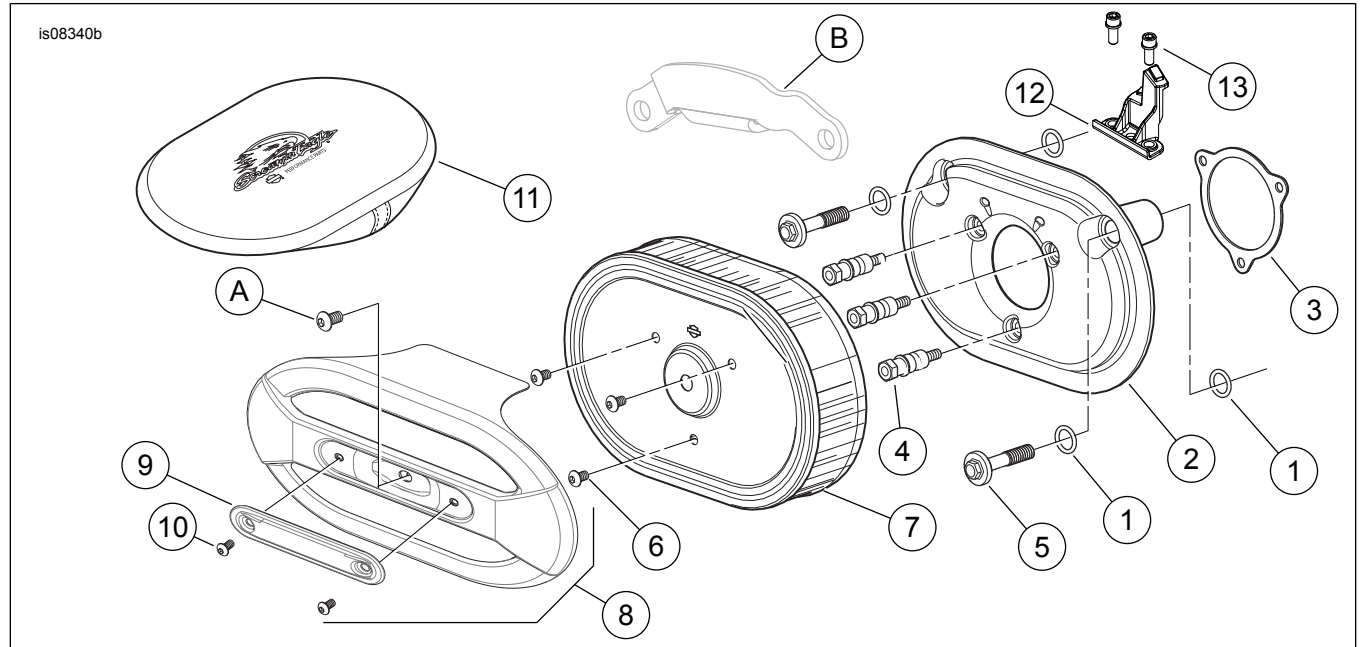

Figure 3. Service Parts: Screamin' Eagle Ventilator Elite Performance Air Cleaner Kit
See Figure 3 and Table 1.
1. See Figure 3. Install ACR clip (12) and screws (13). Tighten screws to 3.4–4.5 N·m (30–40 in-lbs).
2. Install two O-rings (1) from the kit in the grooves around the breather bolt holes on the induction module side of the backplate assembly (2). Install the remaining two O-rings in the grooves in the underside of the heads of the breather bolts (5).
3. Remove the liner from the adhesive backing of the gasket (3). Carefully position the adhesive side of the gasket to the backplate, aligning to the equally spaced screw holes. Press the gasket firmly into place.
4. Insert new breather bolts (5) through the backplate.
7. Thread the air cleaner mounting studs (4) through the backplate (2) until the screw threads are captured in the induction module. Leave fasteners loose.
1. See Figure 3. Secure the air filter element (7) to the air cleaner mounting studs (4) using three bright-finish TORX® screws (6) from the kit. Tighten the screws to 6.2–6.8 N·m (55–60 in-lbs).
2. Apply Loctite 243 - Blue to the threads of the OE air cleaner cover screw (A). Secure the air cleaner cover (8) to the air filter element (7) with the screw. Tighten the screw to 4.1–6.8 N·m (36–60 in-lbs).
3. Assemble the air cleaner cover insert (9) to the air cleaner cover with two chrome screws (10). Tighten securely.
1. See Figure 3. Remove the air cleaner cover (8) and inspect the filter element (7) every 8,000 km (5000 mi), or more often under dusty conditions.